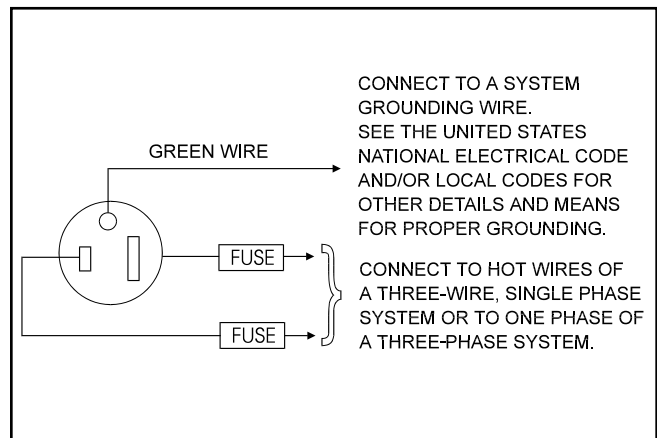

FIGURE A.2. - Ground Connections.
3. Mount the receptacle with the grounding terminal at the top. This allows the power cable to hang down without bending. See Figure A.2.
- b. Fuse the two hot lines of the receptacle with super lag type fuses as shown in Figure A.2. A green wire in the input cord connects this terminal to the frame of the welder. This ensures proper grounding of the welder frame when the welder plug is inserted into the receptacle.